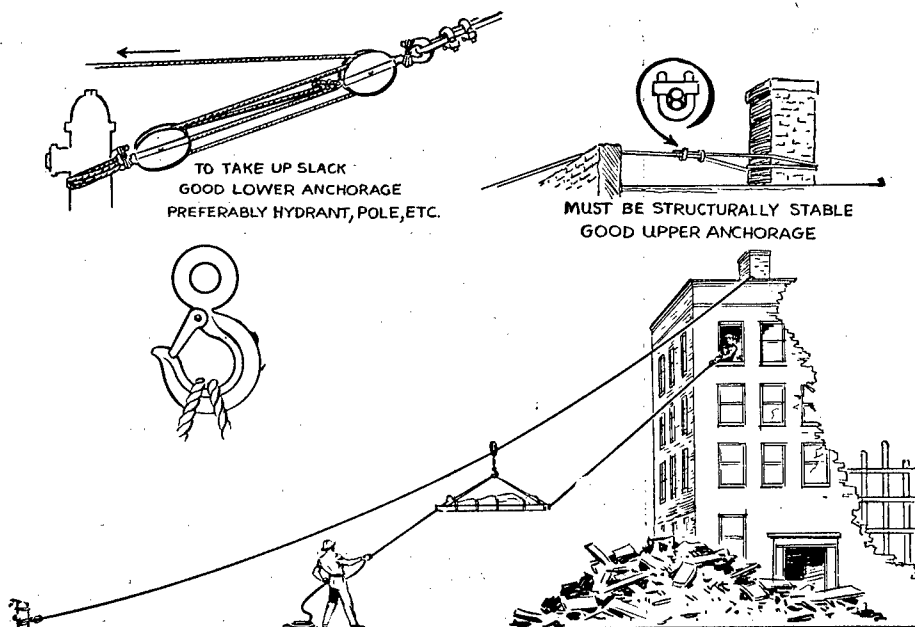

FIGURE 28.—Telfer line.
- c. Setting up telpher. (See figure 28.)
- (1) Secure upper anchorage.
- (2) Secure lower anchorage.
- (3) Take slack out (block and tackle or "come along").
- (4) Place safety snatch block on telpher line.
- (5) Place stretcher sling on snatch block.
- (6) Secure hold back line to stretcher, not to block.
- (7) Pass forward guide line to man on ground.
- (8) Lower stretcher slowly on telpher.